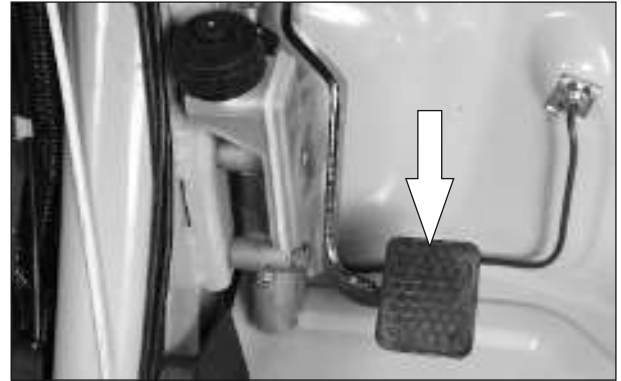

Fig. 2.72
- Instruct the assistant to "apply." The assistant should pump the brake pedal three times, hold the pedal down firmly, and respond with "applied." Instruct the assistant not to release the brakes until told to do so. (Fig. 2.72)